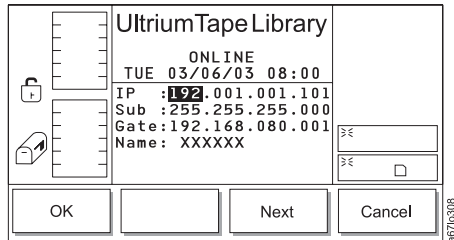

Figure 4-104. Confirm Changes Dialog
5. Verify that the new settings are correct on the display, then press the button below the **Next** softkey until the Confirm Changes Dialog displays (see Figure 4-104).